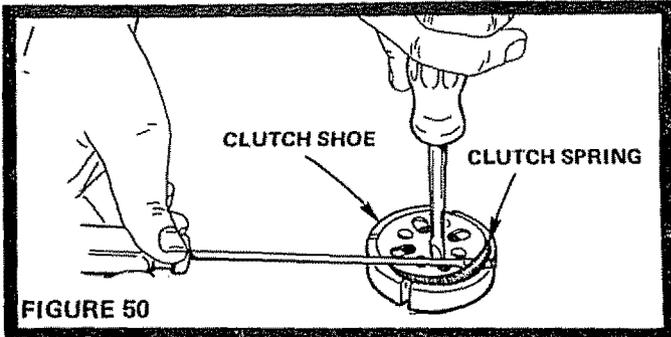

FIGURE 50
4. Remove Clutch from Drum. Use small screwdrivers to pry Clutch Shoes out to remove Clutch Springs (Fig. 50).